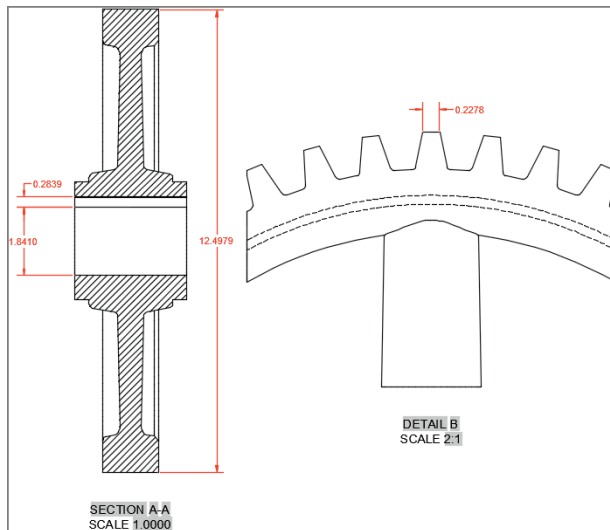

FIGURE 18.26 Associating dimensions with section and detail views
12. Toggle on object snap in the status bar. Switch to the Annotate tab on the ribbon, and select the Linear tool in the Dimension panel. Dimension the features shown in Figure 18.26. These dimensions are associated with the section and detail views, which in turn are associated with the base view, which is in turn associated with the model. If you were to change the gear geometry in model space, views and dimensions would automatically update on the layout.